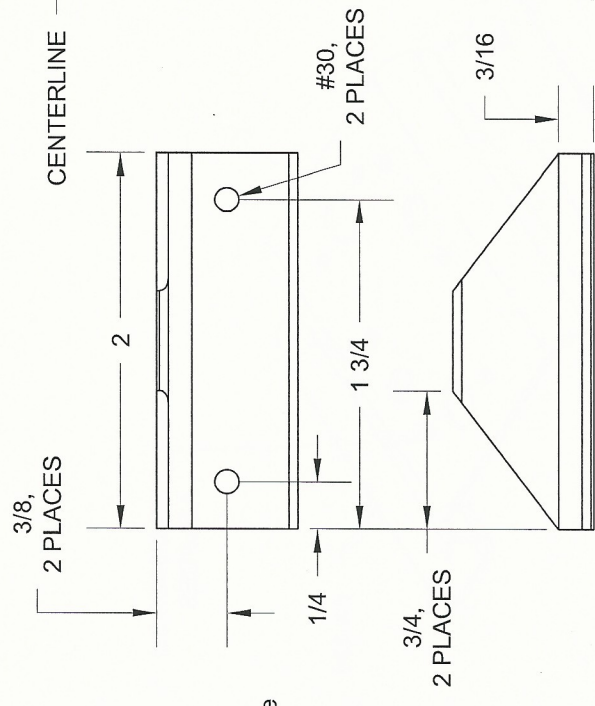
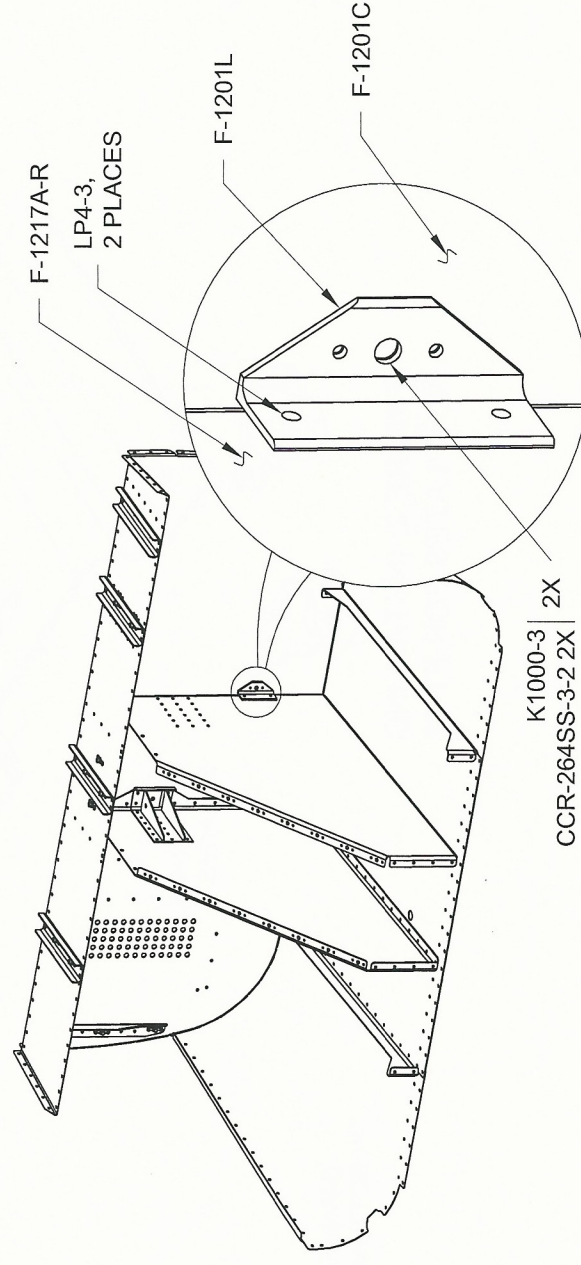

FIGURE 3: MAKING F-1201L
FIGURE 4: INSTALLING F-1201L
Step 6: Make the F-1201L Bracket from AA6-063X3/4X3/4 per the dimensions given in Figure 3.
Step 7: Draw a centerline on the forward face of the F-1201L Bracket. See Figure 3.
Step 8: Place the F-1201L Bracket flush against the F-1217A-R Tunnel Rib and F-1201C Firewall Bottom dimples as shown in Figure 4. Align the centerline on the forward face of the bracket with the gascolator attach hole (Page 22-2, Figure 3) then match-drill #40 the nutplate attach holes in the firewall bottom into the bracket (use a small wood block to protect your fingers). Remove the bracket and machine countersink the nutplate attach holes in the forward face of the bracket for the dimples in the firewall bottom.
Step 9: Cleco the F-1201L Bracket to the F-1201C Firewall Bottom. Match-Drill #30 and cleco the two holes in the inboard flange of the bracket into the F-1217A-R Tunnel Rib (a #30 12 inch extension bit is useful for these holes). Match-Drill #12 the gascolator attach hole in the firewall bottom into the bracket. See Figure 4.
Step 11: Rivet the F-1201L Bracket to the F-1217A-R Tunnel Rib and with a nutplate to the F-1201C Firewall Bottom as shown in Figure 4. Dimple then rivet a second nutplate to the remaining gascolator attach hole on the firewall bottom inside the tunnel.